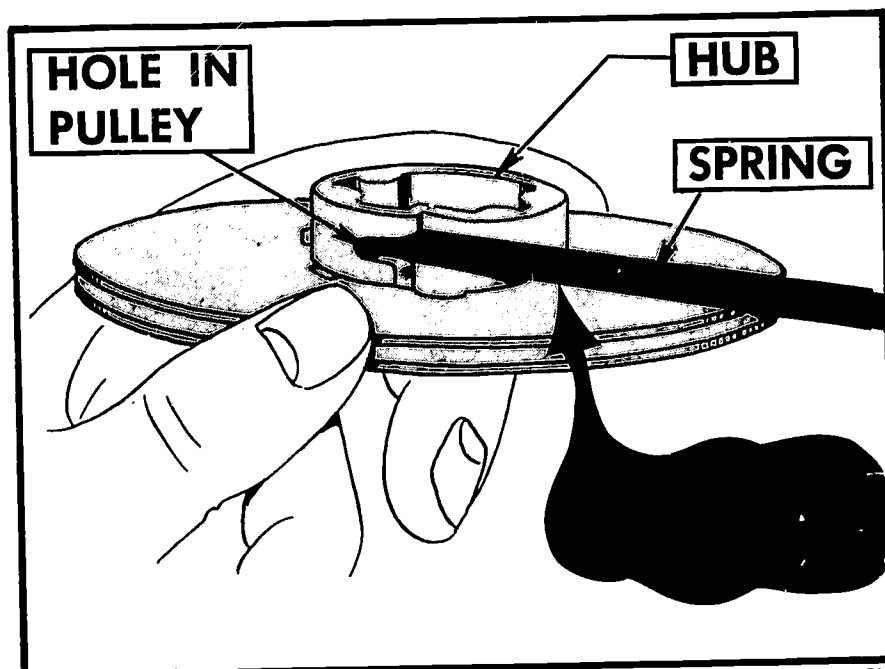

FIGURE 35. Unhook recoil spring from the pulley.
5. *Disconnect the recoil spring from the pulley (Figure 35).*
8. *Attach new spring to the pulley (Figure 35).*